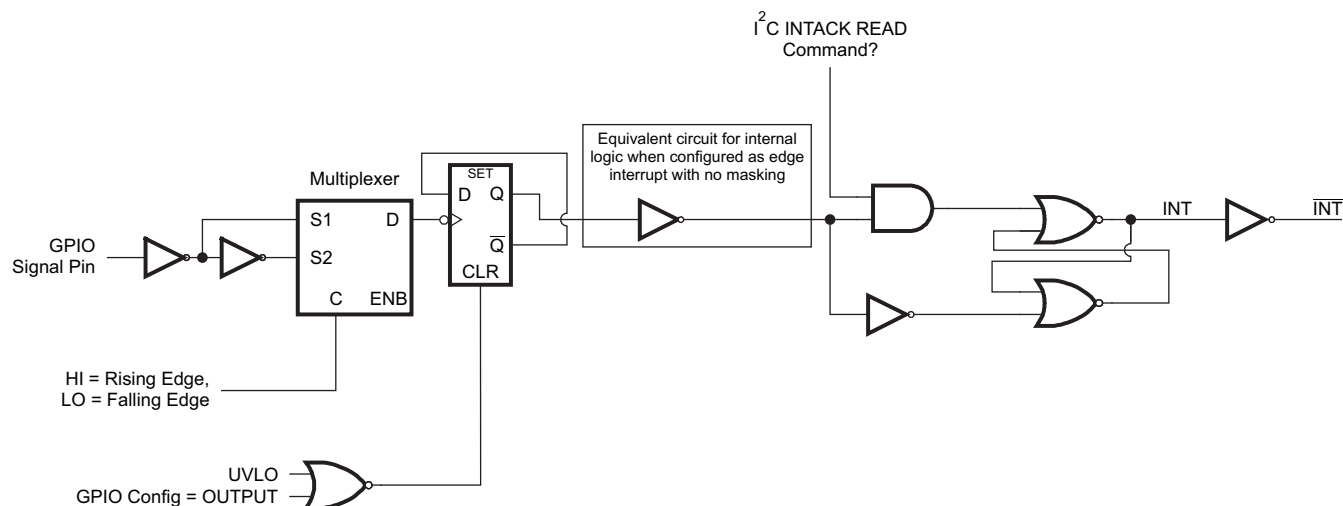

Figure 58. GPIO 1 or GPIO2 Configured as an Interrupt Request Input
See Figure 58 for a description of the logic used for GPIO1 and GPIO2 inputs when configured for edge-triggered interrupt generation. The signal from the GPIO pin input is double-latched before being sent to the interrupt controller logic. The inversion of the Q output from the first flip-flop must be HI to allow the output latch to be cleared when a READ command occurs. On the initial edge of the GPIO signal, the Q output of the flip-flop is set (HI). The $\overline{\text{INT}}$ line is asserted (LO) after the initial selected edge from the GPIO pin. On the next falling (or rising) edge of the GPIO pin, the interrupt can again be cleared (which allows the INT pin to go back high). The $\overline{\text{INT}}$ signal is cleared (set back HI) after an I²C READ operation is performed.